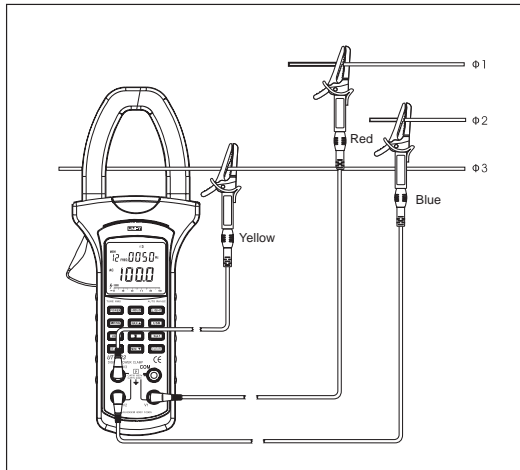

Figure 5
- **When measuring 3 phase 3 wires, connect the Meter as figure 5.**